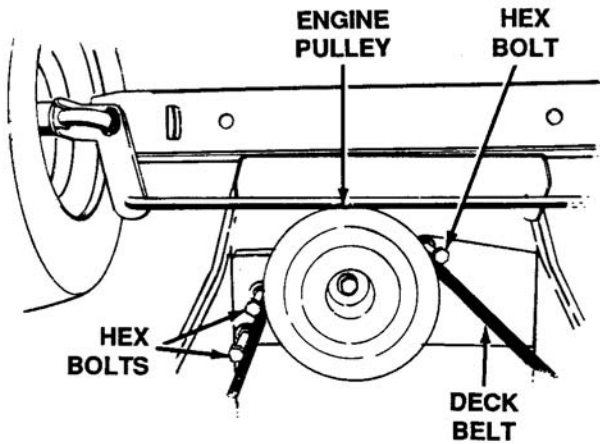

Figure 4-14. Location of Hex Bolts
- b. Remove the three hex bolts (belt keepers) from the engine pulley belt guard. See Figure 4-14.